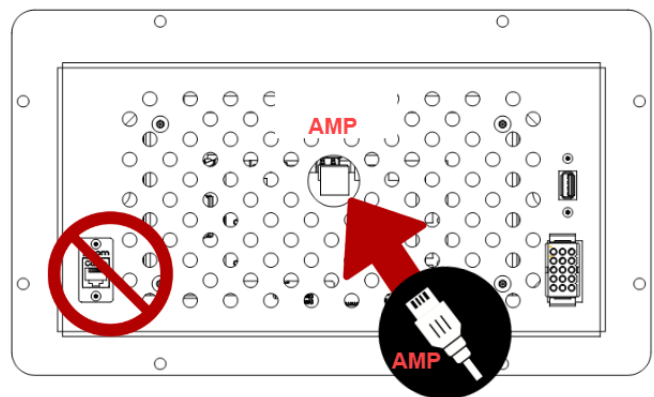

Figure 5: Rear Controller RJ45 Connection
**Connecting this cable to the incorrect port may cause damage to the equipment.** See Figure 5 for details.